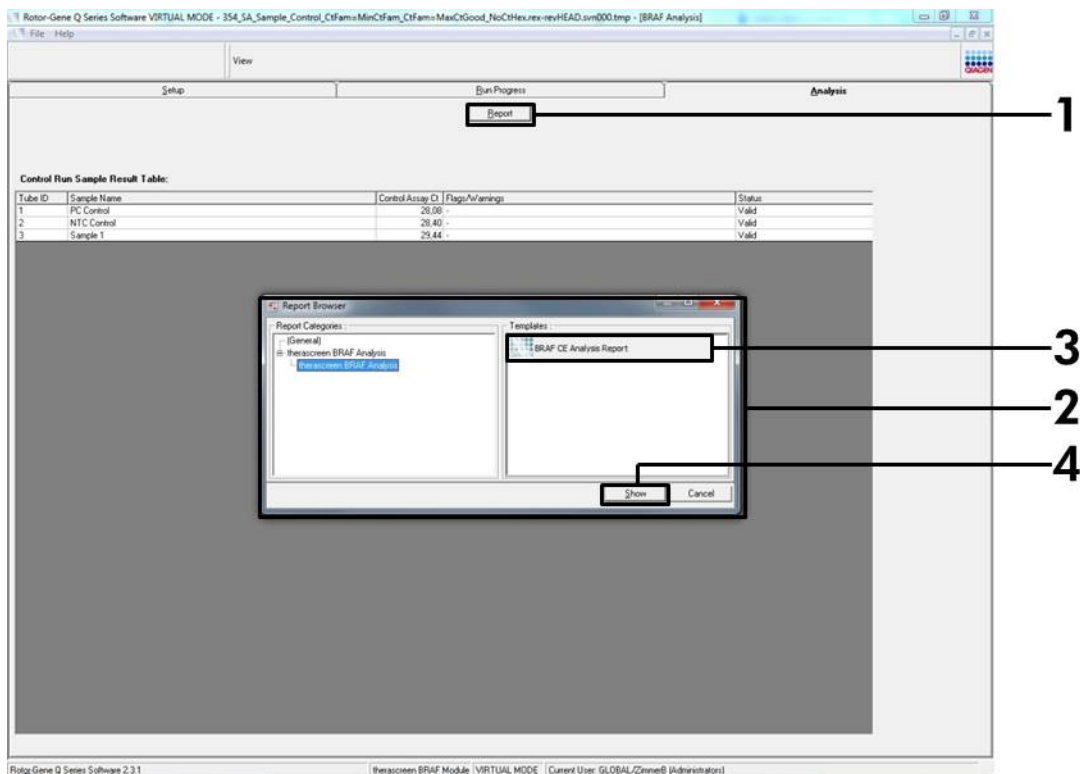

Figure 10. Selecting the “BRAF CE Analysis Report”. (1 = “Report” button, 2 = “Report Browser”, 3 = “BRAF CE Analysis Report”, 4 = “Show” button).
18. Report files can be produced by clicking the “Report” button. The “Report Browser” window will appear. Select “BRAF CE Analysis Report” under “Templates” and then click the “Show” button (Figure 10).